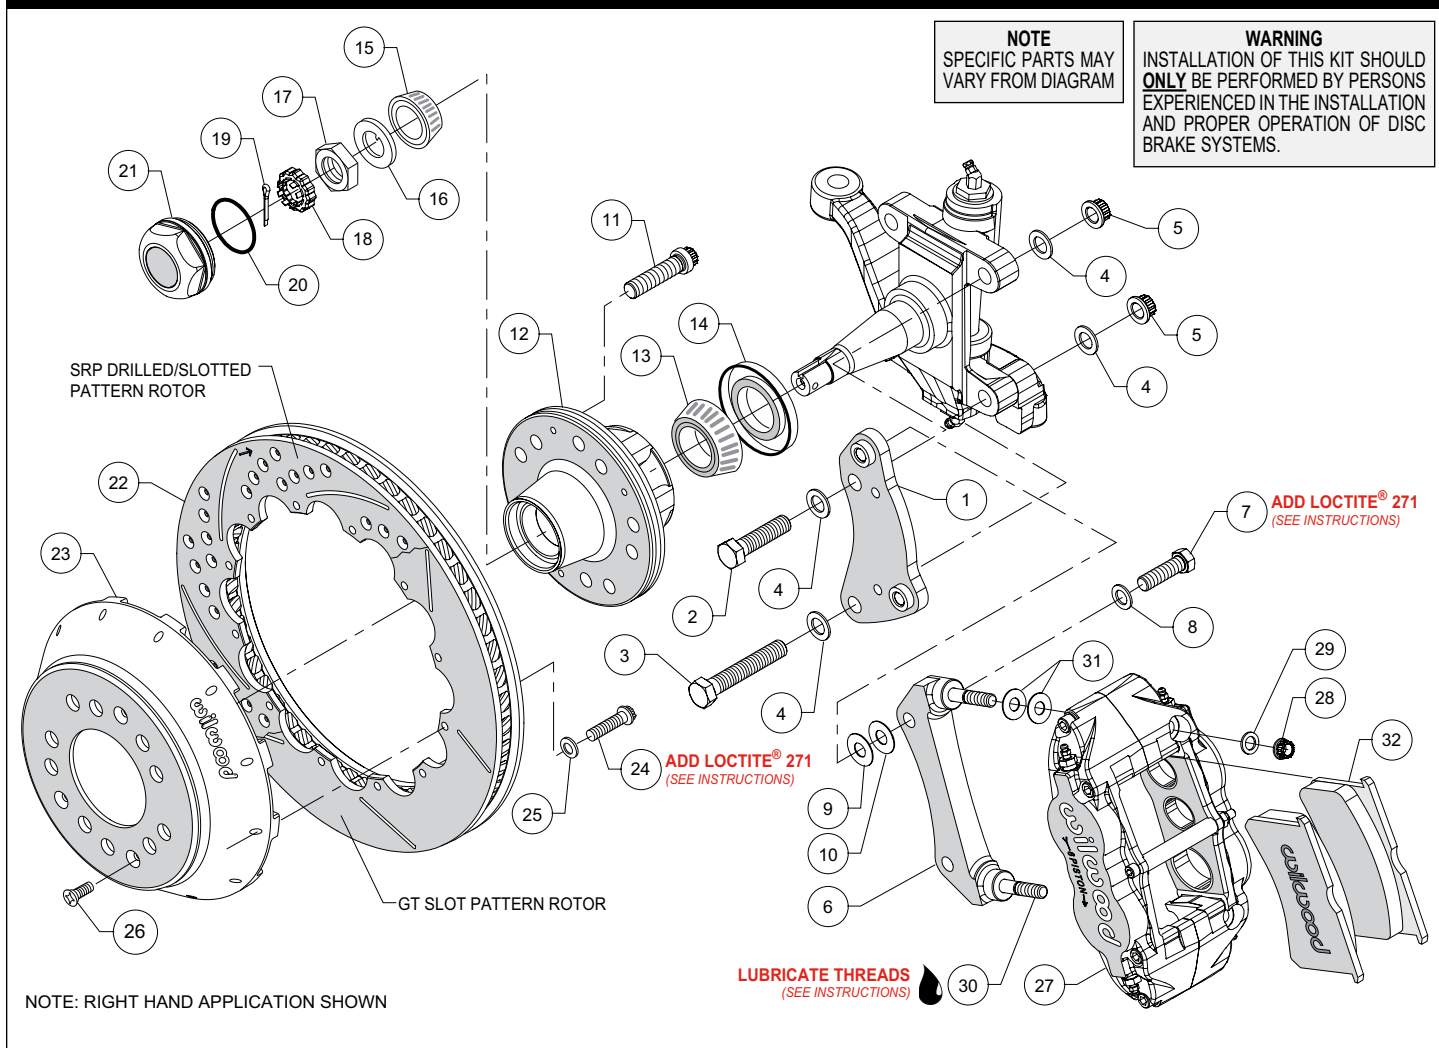
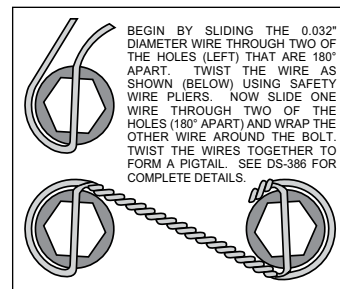

Figure 1. Typical Installation Configuration
Figure 3. Safety Wire Diagram
**NOTE:** Numbers in parenthesis refer to the parts list and Figure 1 on the preceding pages.
- Orient the spindle bracket (1) as shown in Figure 1 and Photo 1, and install using bolts (2 and 3), washers (4) and nuts (5). Temporarily tighten the mounting bolts. Ensure that the flanged heads of the clinch nuts in the bracket are facing outboard, Photo 1. **NOTE:** The bracket must fit squarely against the mount bosses on the upright. Inspect for interference from casting irregularities, machining ridges, burrs, etc. Torque lock nuts (5) to 65 ft-lb.
- The caliper mount radial bracket (6) should initially be installed with clean, dry threads on the mounting bolts. Orient the bracket as shown in Figure 1, and Photo 2. Install onto the spindle bracket using bolts (7), and washers (8). Initially place one .030 thick shims (9) on each bolt between the radial and spindle brackets, Figure 1. Temporarily tighten the mounting bolts. Later, after the caliper alignment has been checked, the mount bolts will be secured using red *Loctite*® 271.
- Install wheel studs (11) into the hub (12), Photo 3. Torque to 77 ft-lb. **NOTE:** There are two five lug patterns in the hub (5 x 4.50 and 5 x 4.75). Ensure the correct hub stud pattern is being used to fit the wheel application.
- Pack the large inner bearing cone (13) with high temperature disc brake bearing grease (available from your local auto parts store) and install into the backside of the hub (12), Photo 4.
- Install the grease seal (14) by pressing into the backside of the hub (12), flush with the end of the hub, Photo 5.
- Pack the small outer bearing cone (15) with high temperature disc brake bearing grease and install into the front side of the hub (12), Photo 6. Slide the hub assembly onto the spindle. Secure using spindle washer (16) and spindle nut (17). Adjust bearings per OEM specifications. Install spindle nut retainer (18) and cotter pin (19), Photo 7.
- Screw dust cap (21) into hub (12), Photo 8. Friction created by the o-ring (20) on the dust cap keeps it from unscrewing. **NOTE:** The O.D. of the existing OEM spindle washer may be larger than the I.D. of the dust cap not allowing it to seat against the hub face. Therefore, use the spindle washer (16) supplied with the kit instead of the OEM washer.
- Orient the rotor (22) and the hat (23) as shown in Figure 1 and Photo 9. Attach rotor to hat using bolts (24) and washers (25). Apply red *Loctite*® 271 to the bolt threads and torque to 155 in-lb using a criss-cross pattern. For an added measure of security, the bolts may be safety wired using standard 0.032 inch diameter stainless steel safety wire as shown in Figure 3. Refer to Wilwood's data sheet DS-386 (available at [www.wilwood.com/Pdf/DataSheets/ds386.pdf](http://www.wilwood.com/Pdf/DataSheets/ds386.pdf)) for complete safety wire installation instructions.
- Slide the hat/rotor assembly (23/22) onto the hub (12) taking care to align the small countersunk holes in the hat with the small threaded holes in the hub, Photo 10. **NOTE:** The hat must fit flush against the hub face or excessive rotor run out may result. Install three flat head screws (26) through the small holes in the hat, and torque to 85 in-lb.
- NOTE:** This kit contains distinct right and left hand calipers that must be mounted in a specific direction, as described below. Lubricate the caliper mounting studs (30) with lightweight oil. Initially place two .035" thick shims (31) on each stud between the caliper and the bracket, as shown in Figure 1 and Photo 11. Mount the caliper (27) onto the bracket (6) using lock nuts (28) and washers (29), Figure 1. Ensure that the caliper is mounted so the largest pistons are at the rotor exit end of the caliper, in relation to the direction of rotor rotation. Temporarily tighten the lock nuts and view the rotor through the top opening of the caliper. The rotor should be centered in the caliper, Photo 12. If not, adjust by adding or subtracting shims (9 and/or 10) between the spindle bracket (1) and the caliper mount bracket (6). Always use the same amount of shims on each of the two mounting bolts (7).